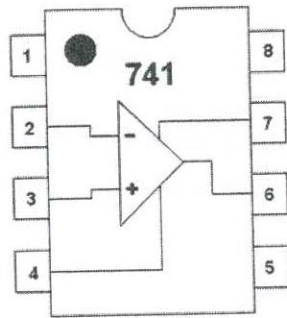

Figure Q3: 741 Operational amplifier pin layout
c) Figure Q3 shows the pin configuration layout for the popular 741 operational amplifier.